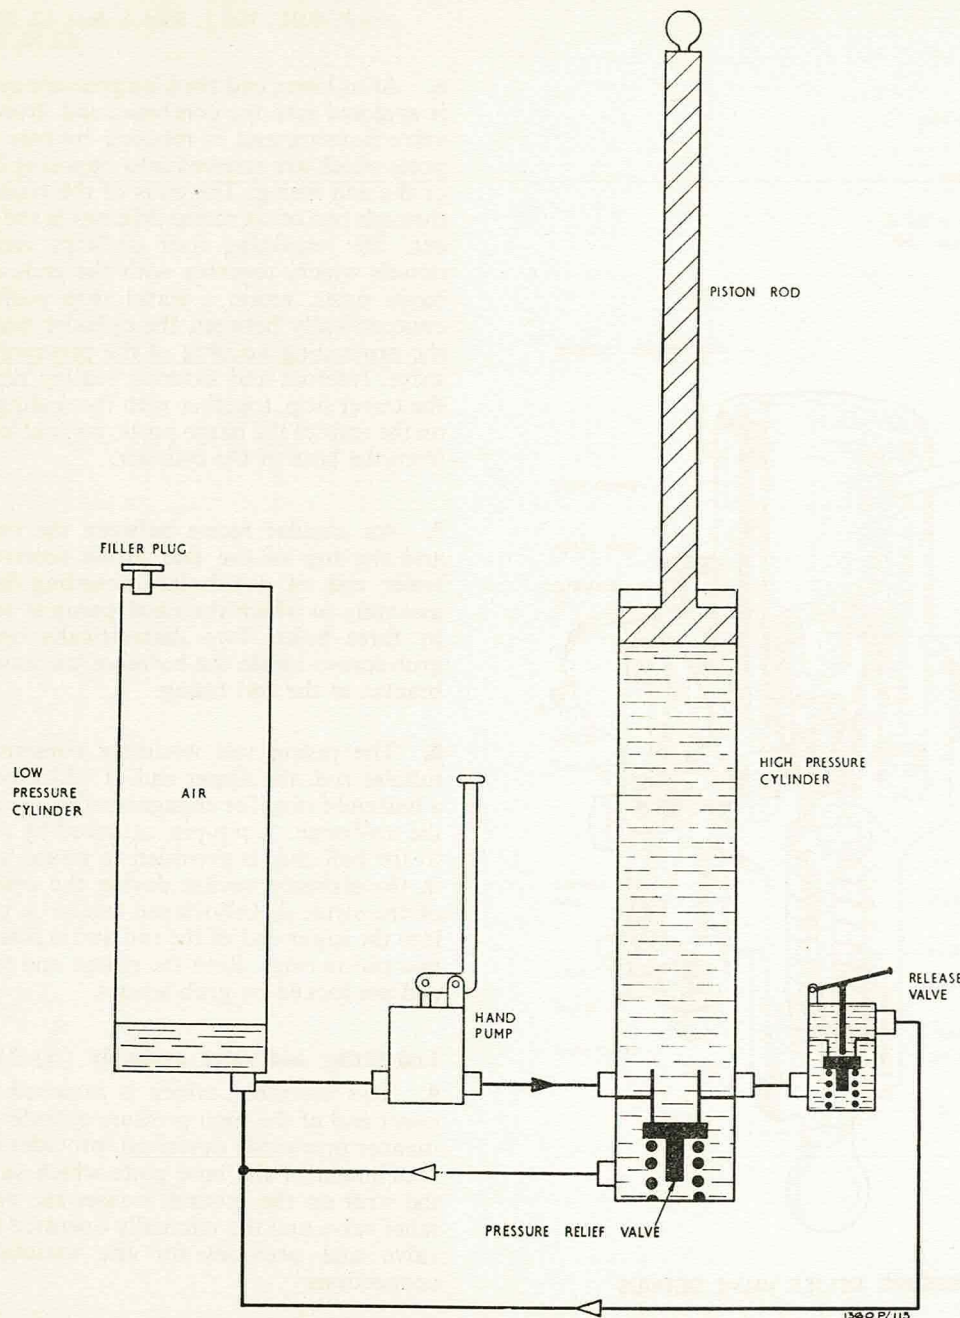

Fig. 4. Diagram of support strut
17. The low pressure cylinder is initially filled until fluid is visible in the stack pipe, with the piston rod in the closed position. Before the filler plug is fitted, the piston is moved to the fully extended position by the operation of the hand pump which causes the level of fluid in the low pressure cylinder to fall. The filler plug is then fitted and tightened, thus trapping air in the cylinder at atmospheric pressure. This condition is shown diagrammatically in fig. 4,